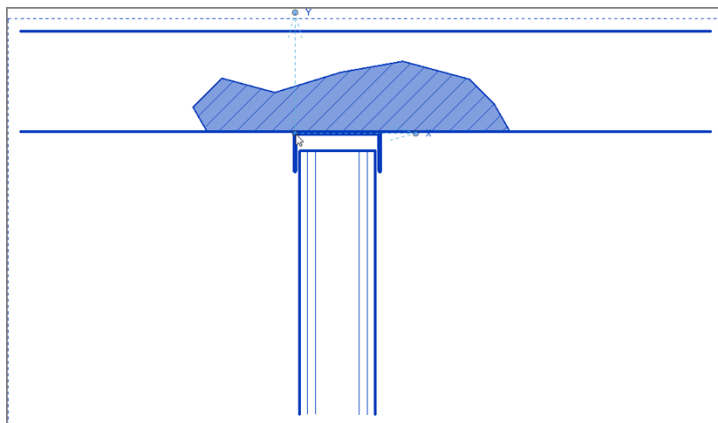

FIGURE 12.68: Move the origin to the location shown here.
4. The group has been created. You see an icon similar to the UCS icon in AutoCAD; this is your origin. Pick the middle grip, and drag it to the left corner of the track (where it meets the floor), as shown in Figure 12.68.